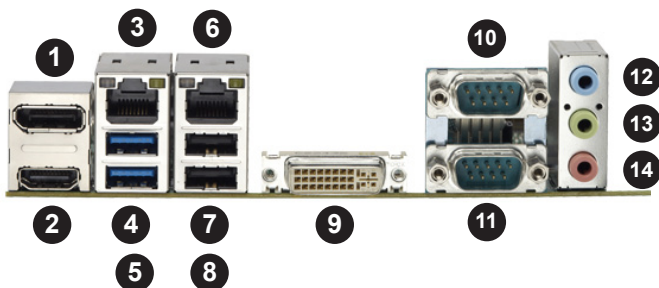

Figure 5-3. Rear I/O Ports
1. Locate the CPU fan power connector on the motherboard. (Figure 5-3)